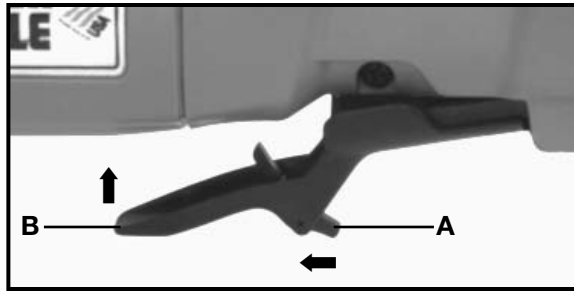

Fig. 1
3. To START Grinder: push forward on the switch release lever (A) Fig. 1, as you squeeze the switch paddle (B) Fig. 1.